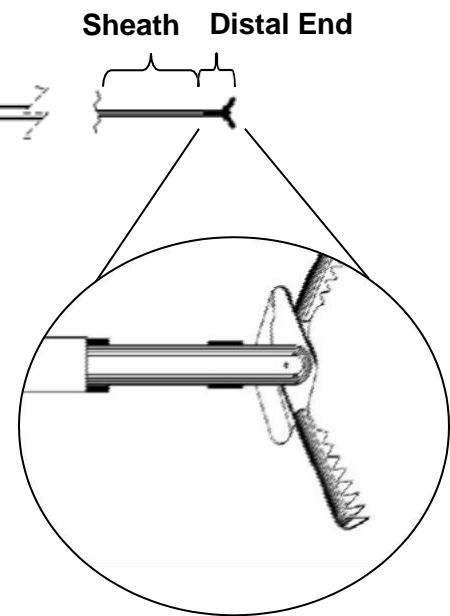

Figure 2
- Slowly move hand to a position on the coiled sheath that is a few inches from the distal end of device. (See Figure 2)
- Actuate the device by moving the Slider back and forth to confirm that the jaws open and close smoothly. (See Figure 2). *If the unit does not function properly, or there is evidence of damage (e.g. bends, kinks, or misaligned jaws) do not use this product and contact your local Product Specialist.*